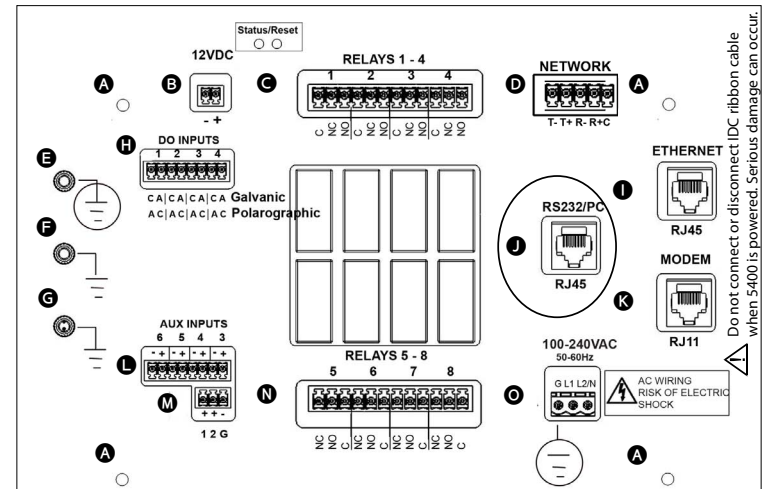

figure 3.31
Use Category 5e patch cable from RS232 port at location **J** - figure 3.31 of I/O Board to PC using RJ45 to DB9 adapter. (Common lettering references are used for both 5400 and 5500 models).
4. Connect one end of communication cable to RJ45 at location **J**. Connect other end to RS232 PC com port using RJ45 to DB9 adapter figure 3.31.